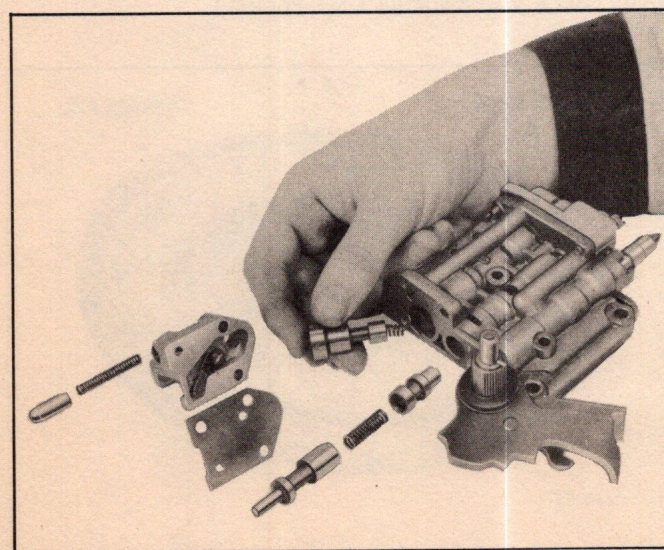

Fig. 181—Removing Double Transition Valve and Spring
13. Remove double transition valve and spring (Fig. 181).